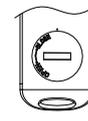

Figure 10
1. Rotate the battery cover counter clockwise to the position as shown in Figure 10.